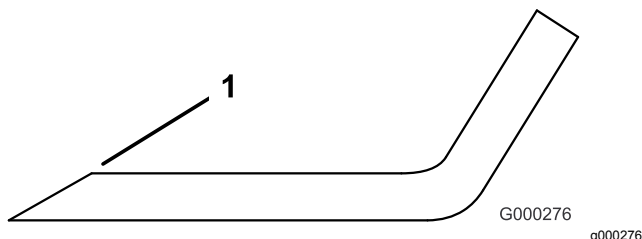

Figure 59
1. Use a file to sharpen the cutting edge at both ends of the blade (Figure 59).